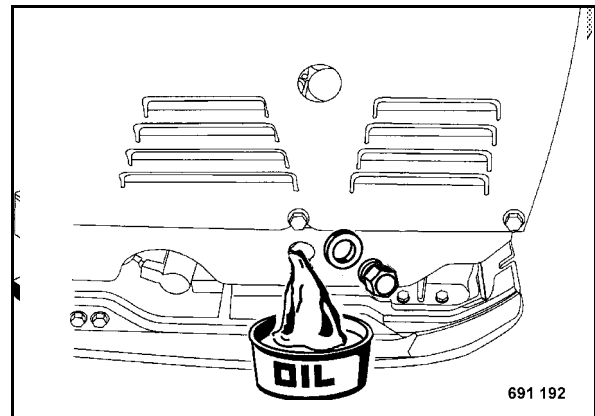

Fig. 63
- Unscrew the drain plug (Fig. 63) and catch running out old oil.